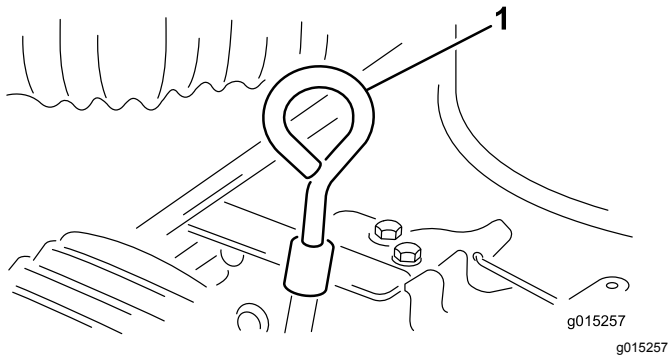

Figure 8
2. Clean around the oil dipstick so that dirt cannot fall into the filler hole and damage the engine (Figure 8).